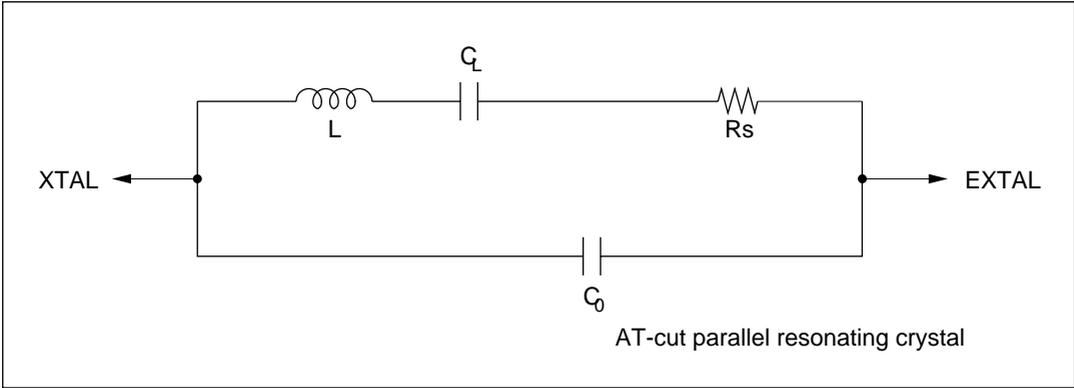

Figure 6-3 Equivalent Circuit of External Crystal
(2) **Crystal Oscillator:** Figure 6-3 shows an equivalent circuit of the crystal resonator. The crystal resonator should have the characteristics listed in table 6-2.